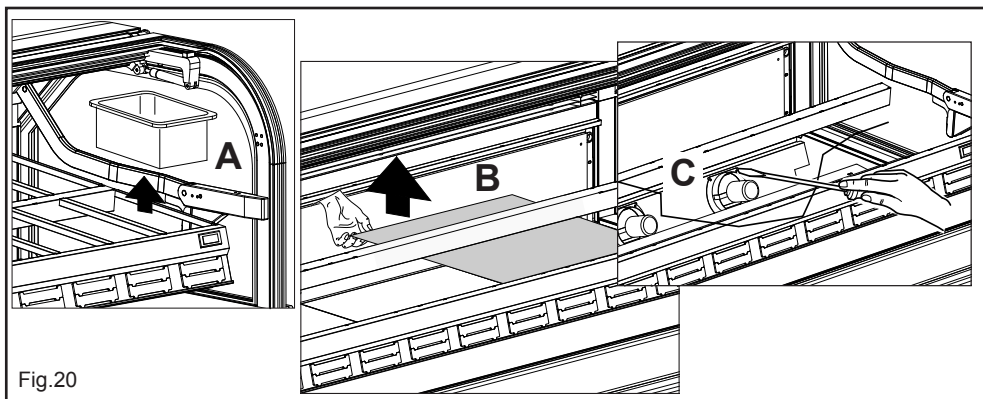

Fig.20
- Remove the tubs (fig.20 pos.A);
- Remove the internal protective shelves (fig.20 pos.B);
- Loosen the fan-fixing screws (Fig. 20 pos. C) and after disconnecting the fan from the electricity supply, remove it;